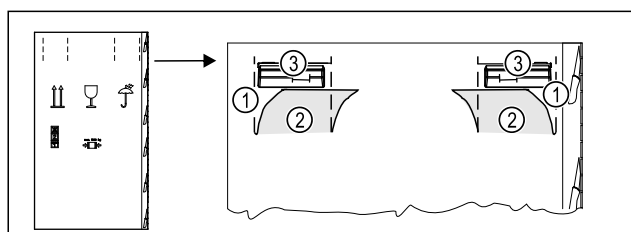

Fig. 5
- ▶ Press the packaging cardboard into the perforation Fig. 5 (1) at the top.
- ▶ Pull out any tabs Fig. 5 (2) that have been pushed in.
- ▶ Carrying handle Fig. 5 (3) visible on the right and left.
- ▶ Hold the appliance by the carrying handles Fig. 5 (3).